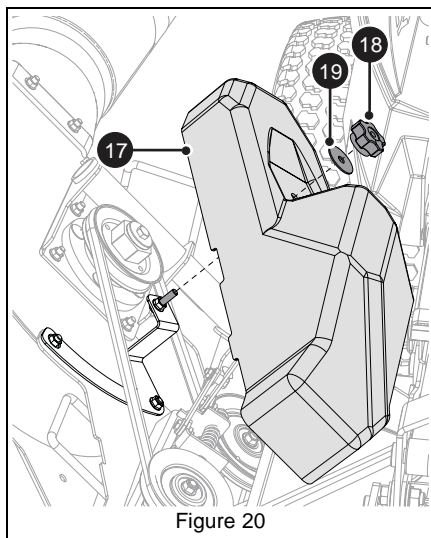

Figure 20
2. Install blower belt cover (item 17) to blower assembly using one 1 1/2" washer (item 19) and one clamping knob (item 18). See Figure 20.